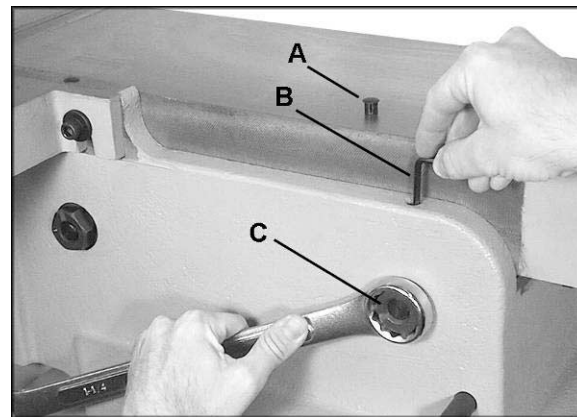

Figure 22
10. At the area of the table where the adjustment must be made, pry out the cap (A, Figure 22) from the hole.
11. There are two set screws in the hole. Insert a 4mm hex wrench (B, Figure 22) into the hole and loosen the upper set screw by turning the hex wrench counterclockwise. Remove the upper set screw from the hole.
13. Turn the hex nut (C, Figure 22) with a 1-1/4" wrench. **This adjustment is sensitive and should be made in small increments.**
NOTE: The rotation is different for left and right hex nuts; the right hex nut being turned in Figure 22 will be turned clockwise to raise that area of the table, or counterclockwise to lower that area of the table. The left hex nut shown in Figure 22 would be rotated in the opposite manner.
15. When the adjustment is satisfactory, with the tables now parallel to the cutterhead, tighten the lower set screw with the hex wrench (B, Figure 22).
17. Re-insert the cap (A, Figure 22) to keep dust and debris out of the hole.